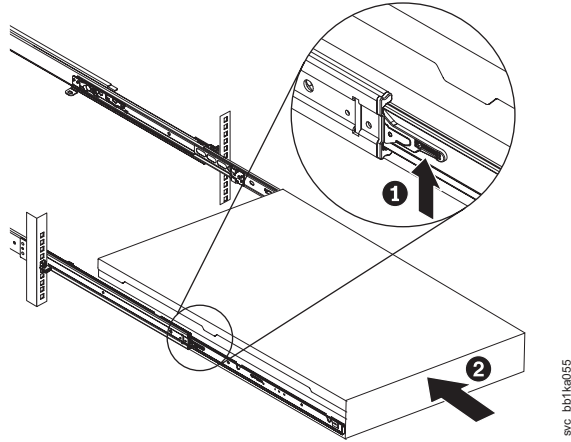

Figure 127. Raising the SAN Volume Controller 2145-CF8 locking levers of the slide rails of the rack
12. Lift the locking levers (1 in Figure 127 on page 147) on the slide rails and push the server 2 all the way into the rack until it clicks into place.